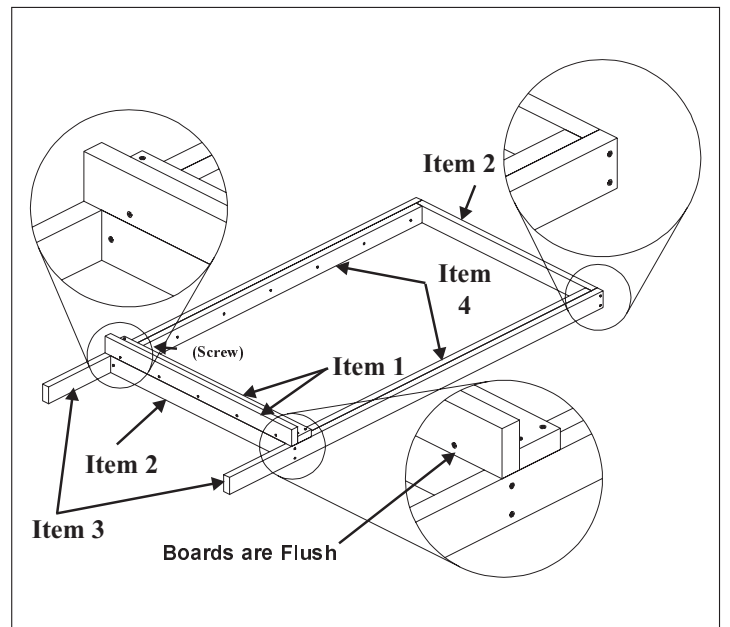

*Figure 3*
3. Measure distance Z as shown in Figure 3.